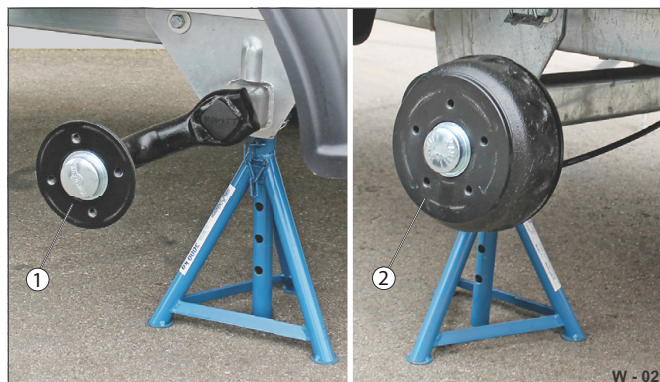

Fig. 31 Wheel hub without wheel
- Inspect the wheel hub / contact surface (Fig. 31 /1 or Fig. 31 /2) and remove any rust - use a wire brush.